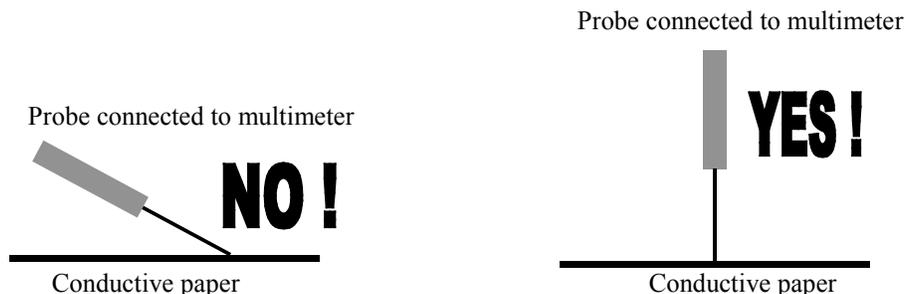

Figure 5 Placing the multimeter probes on the conductive sheet.
3.3 When placing a probe on the conductive paper, always hold the probe vertically, as shown in Figure 5.